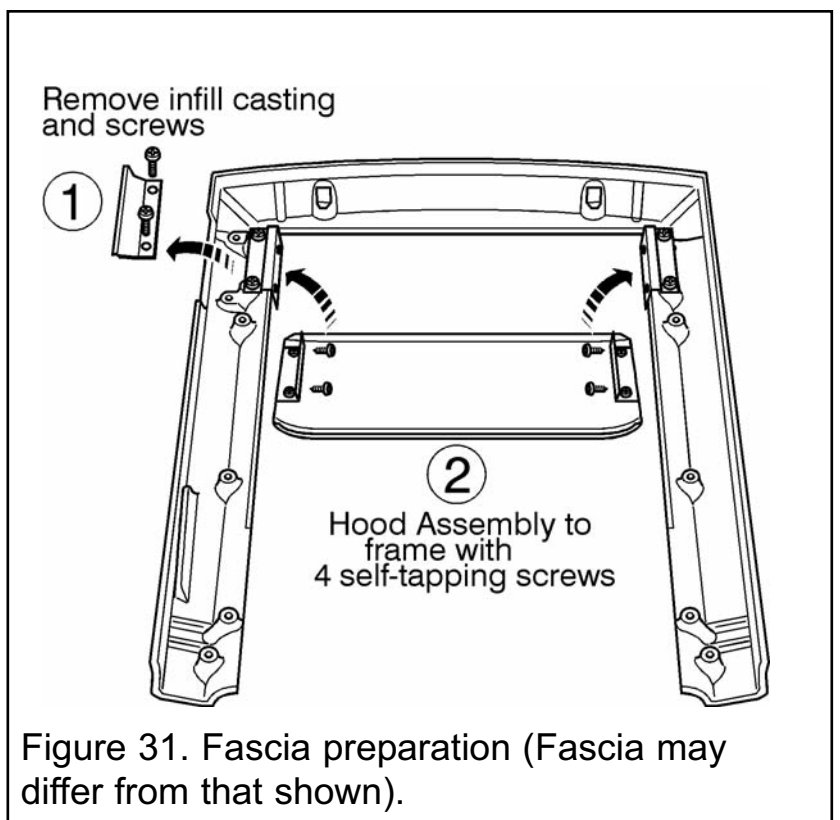

Figure 31. Fascia preparation (Fascia may differ from that shown).
1. As supplied the Dream fascia has an infill casting. Unscrew, remove and discard this (See figure 31).